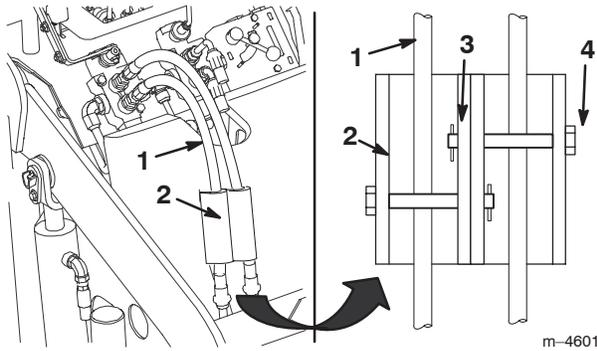

Figure 15
7. Install the cylinder locks over the hydraulic hoses and secure them with the clevis pins and cotter pins (Fig. 15).